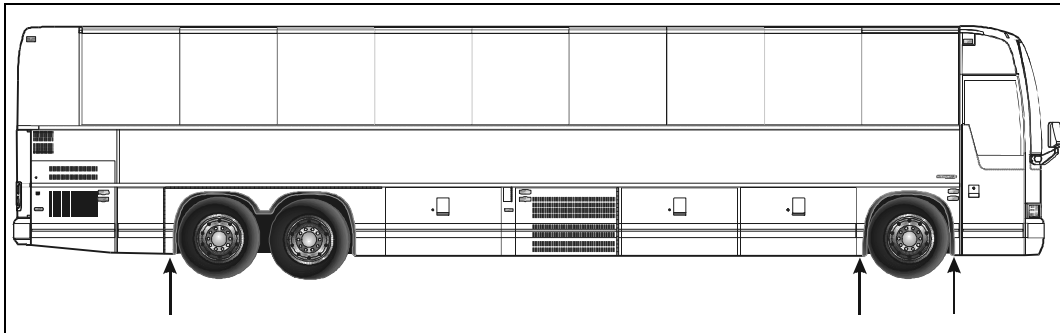

FIGURE 5: JACKING POINTS ON FRAME
1. Raise vehicle by the jacking points on frame (refer to figure 5).